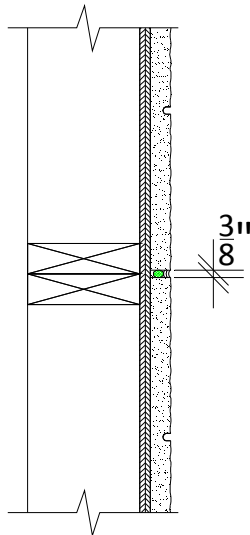

Fig. 7 - Horizontal Panel Joint Spacing
- Once finished with the first level of panel installation continue to the second level. Installation will be the same as the first level. Caution should be taken as your height of installation increases as the panels are very heavy. If necessary equipment can be utilized to help during the installation. It is the responsibility of the installer to determine the proper use and attachments of panels to such equipment. (Fullerton can suggest types and uses of equipment if requested) Be sure to allow for horizontal joint spacing unless noted otherwise. See fig. 7